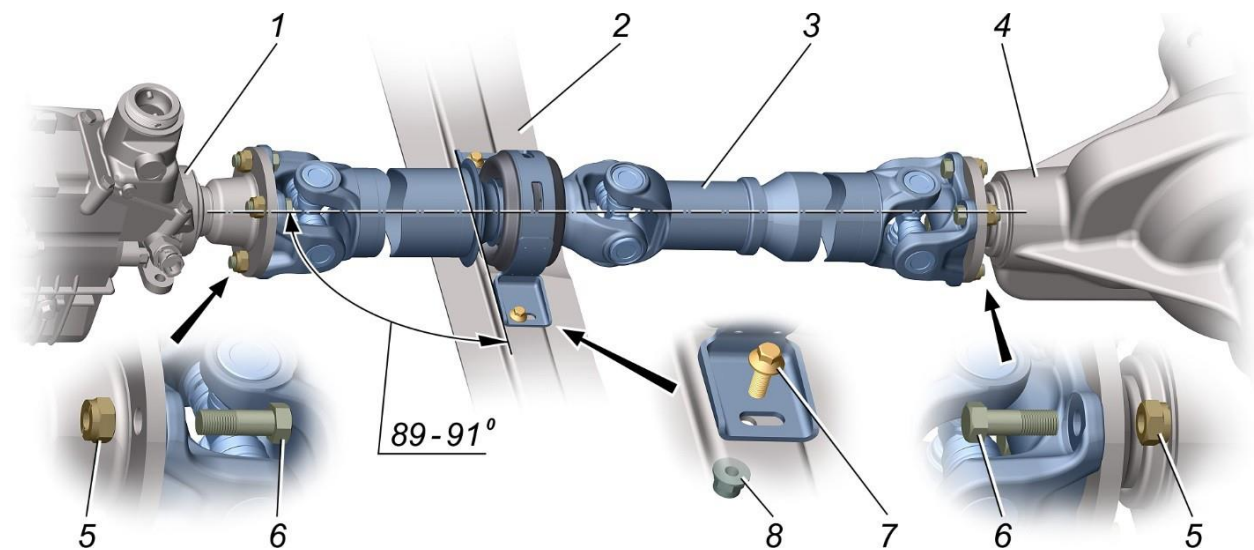

Fig. 3.30. Driveline installation: 1 – gearbox; 2 – frame cross-member; 3 – driveline; 4 – rear axle; 6, 7 – bolts; 5, 8 – nuts
- unscrew nuts 8 (Fig. 3.30) of bolts fastening the intermediate support to the frame cross-member 2;